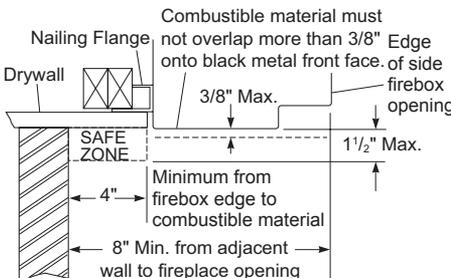

Figure 9 - Framing for Built-In Firebox Installation, Top View
**WARNING:** Do not allow any combustible materials to overlap the firebox front facing (see Figure 9).